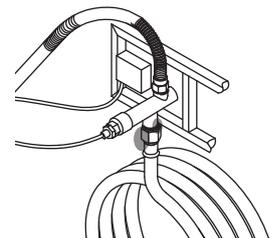

Figure 8
- **Hose and appliance gas inlet** (see Figure 8)